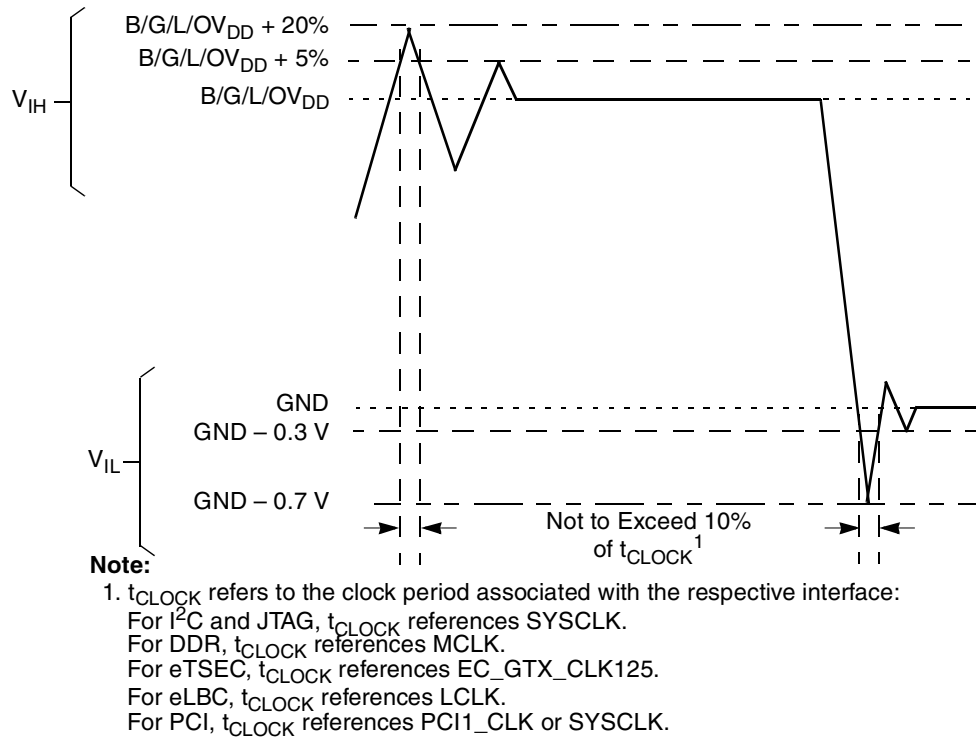

Figure 7. Overshoot/Undershoot Voltage for $GV_{DD}/OV_{DD}/LV_{DD}$
3. (M,L,O) V_{IN} and MV_{REF} may overshoot/undershoot to a voltage and for a maximum duration as shown in Figure 7.